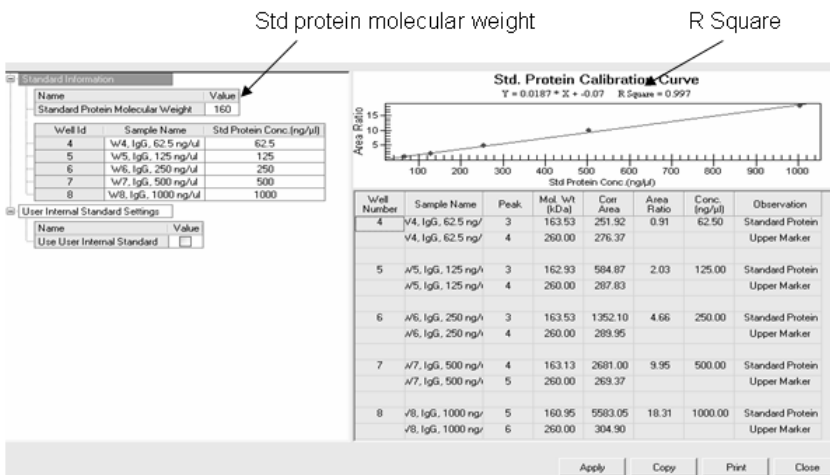

Fig. 3.4. Internal Std. and Std Protein Calibration Curve window.
6. Next to **Standard Protein Molecular Weight** (Figure 3.4), enter **160** (the region in which the software searches for a peak). Click **Apply** to update the calculation.